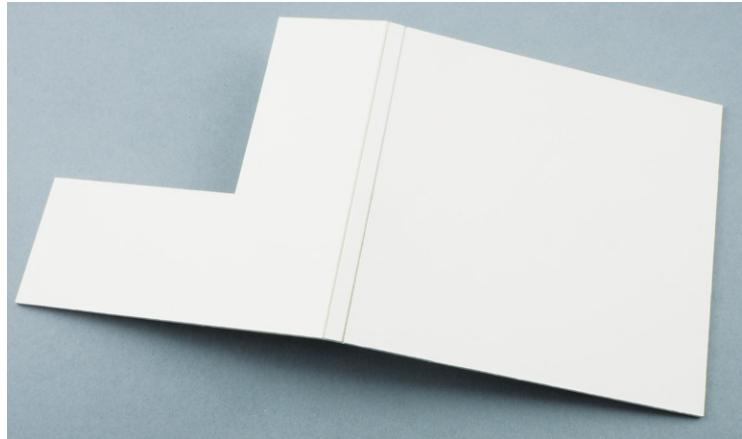

Figure 8-2: Making the hinge and cutting out a place for the micro:bit display
1. Draw two parallel lines roughly halfway down the cardboard and about 1/4 inches (5 mm) apart, as shown in Figure 8-2. You'll fold the cardboard along these lines. Also, mark the rectangular part of the cardboard you want to cut out. Make sure the hole you'll make is big enough for the micro:bit's screen.